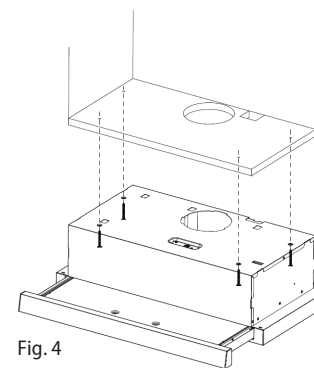

Fig. 4
4. Drill the holes and attach the hood to the top cabinet according to Fig. 4, or to the wall according to Fig. 5.